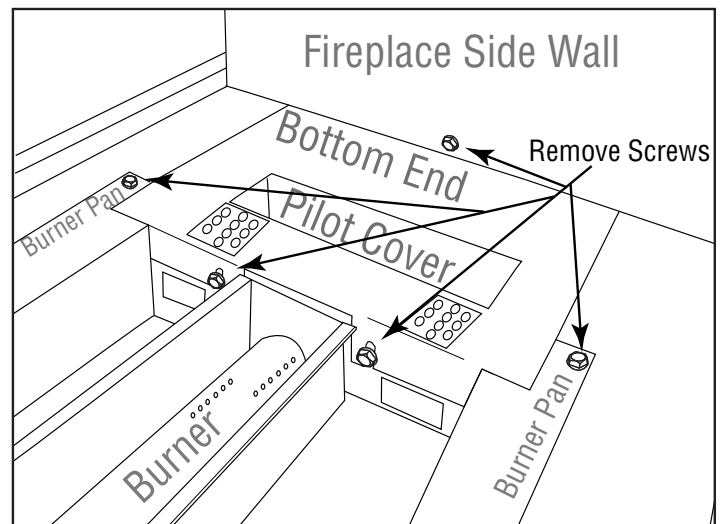

Figure 2 - Removal of burner pan screws.
RECOMMENDATION: Once the gas line is established it is recommended to remove the burner pan from the firebox until the fireplace is in the final stages and ready for the burner installation. See Burner Pan Removal in **Figure 2**.
The burner pan is secured in the fireplace with five (5) screws on each end. Two (2) screws are located on the outer edge of the burner pan and three (3) screws are located securing the bottom end (see **Figure 2**). Remove all five (5) screws on each end to lift the burner pan up. Use **Figure 22 on Page 17** as a reference to remove the bottom end.